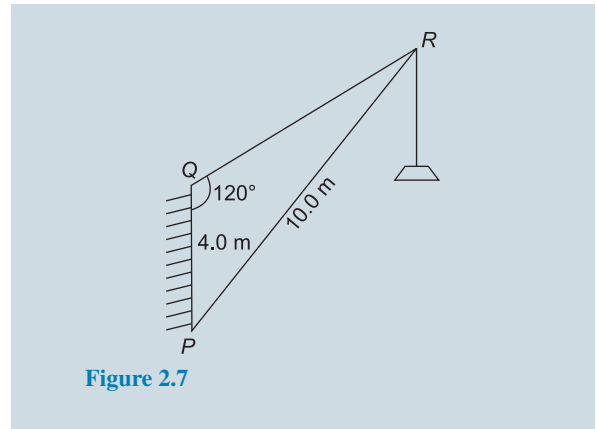

Figure 2.7
- In Fig. 2.7, PR represents the inclined jib of a crane and is 10.0 m long. PQ is 4.0 m long. Determine the inclination of the jib to the vertical (i.e. angle P) and the length of tie QR .